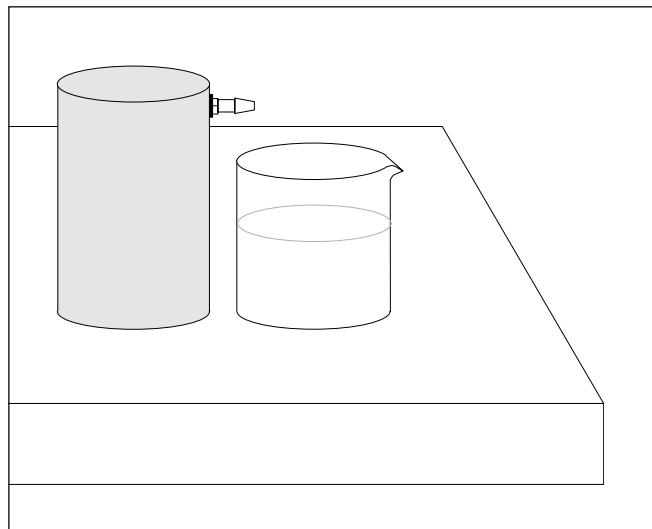

Figure 1: Overflow Setup
1. Find the mass of the empty beaker and record this at the top of Table 3.1. Put the beaker under the overflow can spout as shown in Figure 1.